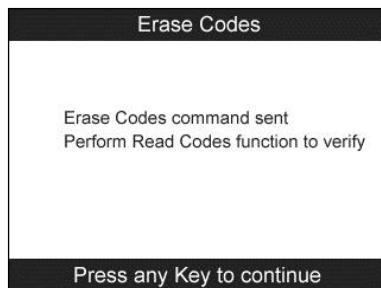

Figure 14.4
- 3) If the erase command is sent successfully, the screen will show as below (Figure 14.4). Press any button to continue. To make sure codes are erased clearly, run **Read Codes** again.